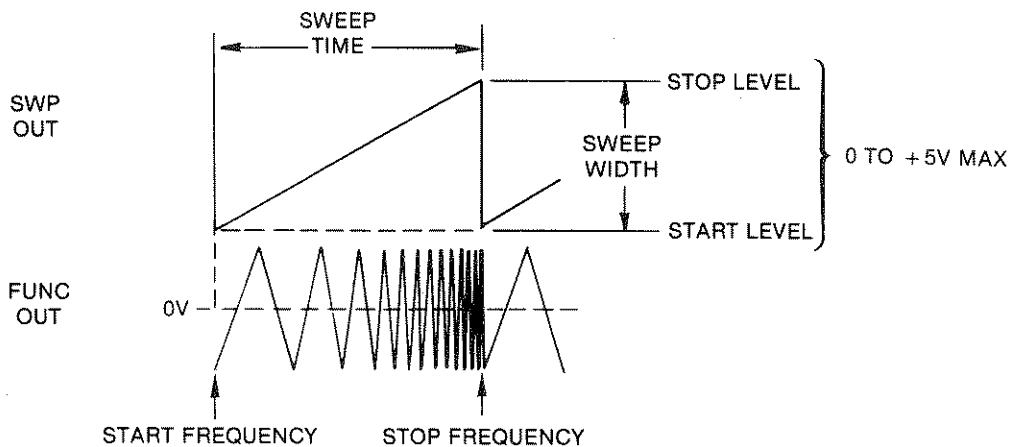

Figure 3-3. Sweep Time and Width
**5 Sweep Set Control** The Swp Set control, the knob of the concentric pair, sets the stop freq in the sweep modes (see figure 3-3).
- 12 Sweep Time Switch** The Sweep time button, when pushed, steps through the sweep time (.01, .1, 1, and 10 seconds). Sweep time is indicated by an annunciator arrow on the display. Frequency of the internal sweep ramp, the sweep rate, is governed by the Sweep time switch 12 (see figure 3-3).
Set as desired. Limit set to prevent clipping (see figure 3-3).